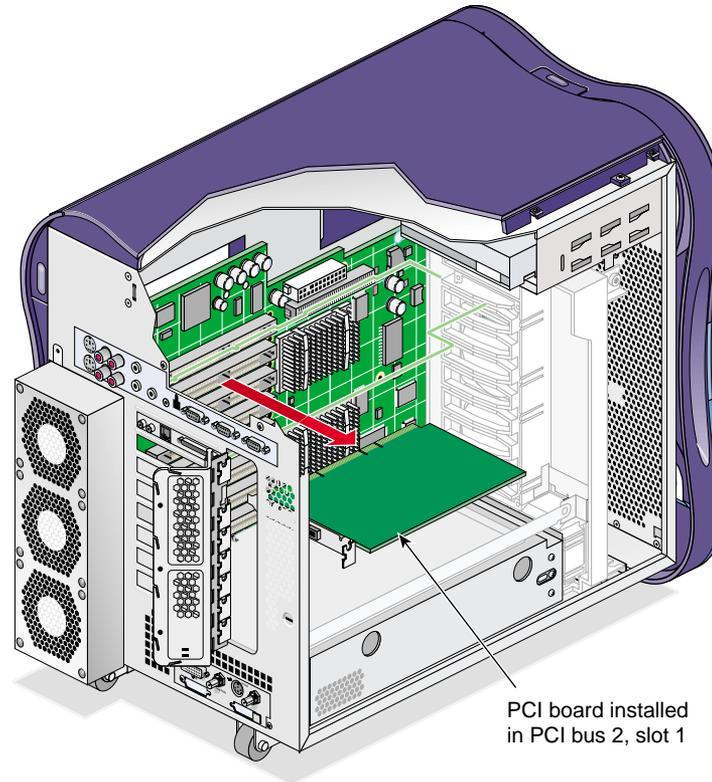

Figure 3-32 Removing a PCI Board
3. Tilt the front end of the PCI board upward until it clears the edge of the chassis. Remove the PCI board from the enclosure and place it in a safe location (see Figure 3-32).